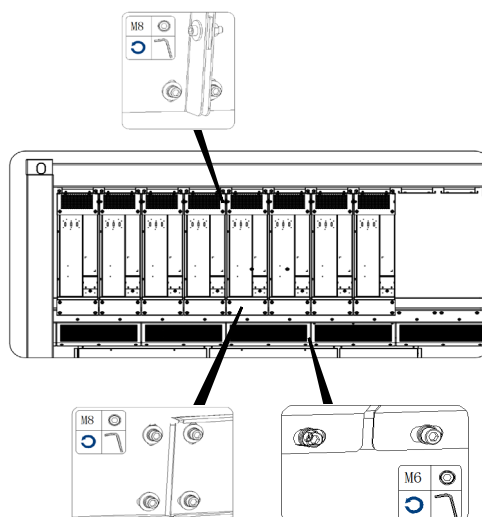

Figure 2 Disassembling the fastening bolt and sealing plate
2. Remove the front fastening bolts and sealing plates corresponding to the module to be replaced, as shown in Figure 2 below;